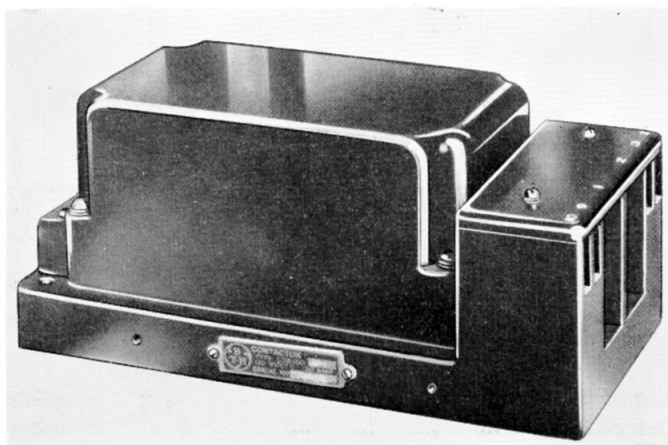

Fig. 1. Contactor, Type LDA150-A1/1
1. The contactor, Type LDA150-A1/1 (fig. 1), is a single-pole, single-throw contactor which is electrically controlled and mechanically latched. It can be operated by a remote switch, and is designed for the control of circuits carrying up to 150 amp. continuously at a normal voltage of 112 volts d.c. Since it is latched mechanically, it is dependent on the nominal control supply of 24 volts d.c. only during the moment of opening or closing of the main contacts.